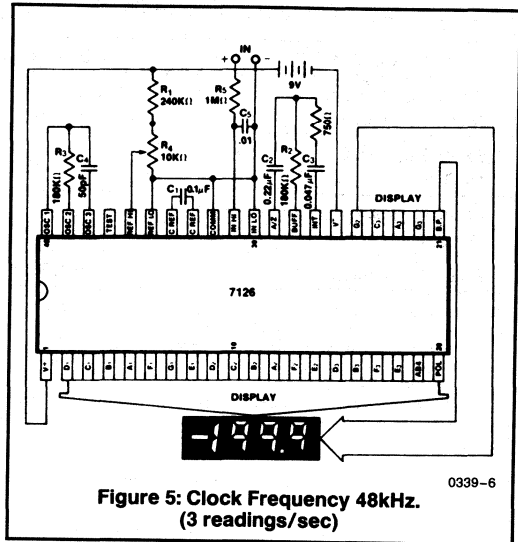

Figure 5: Clock Frequency 48kHz.
6. During auto zero phase, current is 10-20μA higher. 48kHz oscillator, Figure 5, increases current by 8μA (typ).